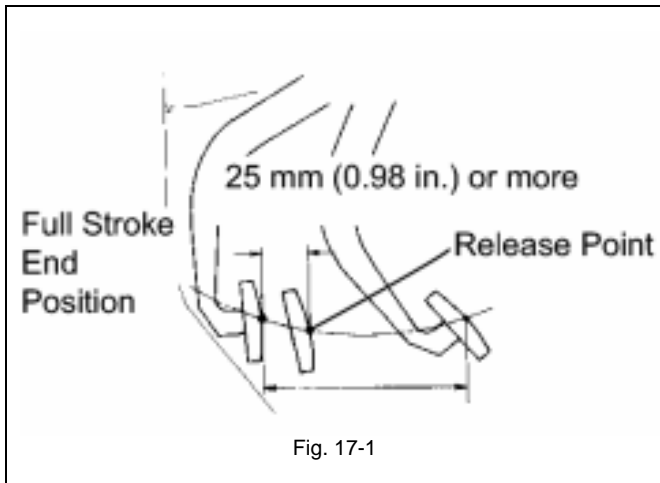

Fig. 17-1
- (2) Tighten the lock nut.
- (3) After adjusting the pedal free play, check the pedal height.
- (a) Check the clutch release point. (Fig 17-1)
- (1) Pull the parking brake lever and chock the rear wheels.
- (2) Start and idle the engine.
- (3) Without depressing the clutch pedal, slowly move the shift lever to the reverse position until the gears are engaged.